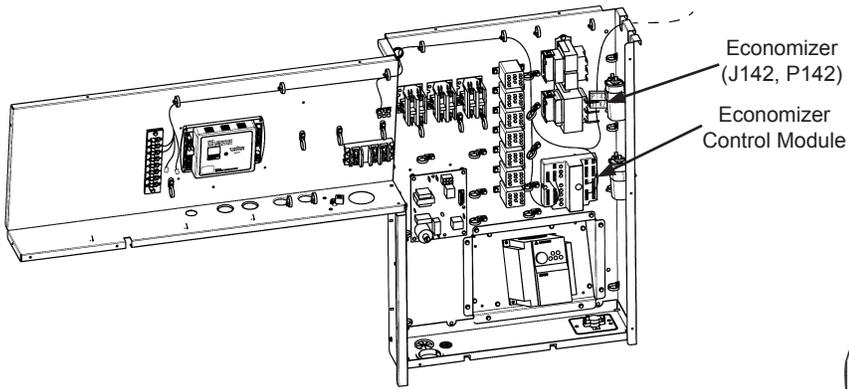

Figure 5A - HVAC Control Box
1. The economizer control module is located below the actuator for shipping. Relocate the control to the unit control box, see Figure 5A.
2. Route the control wires to unit terminal block (TB1) and connect these wires to TB1 as following (see Figure 5A):